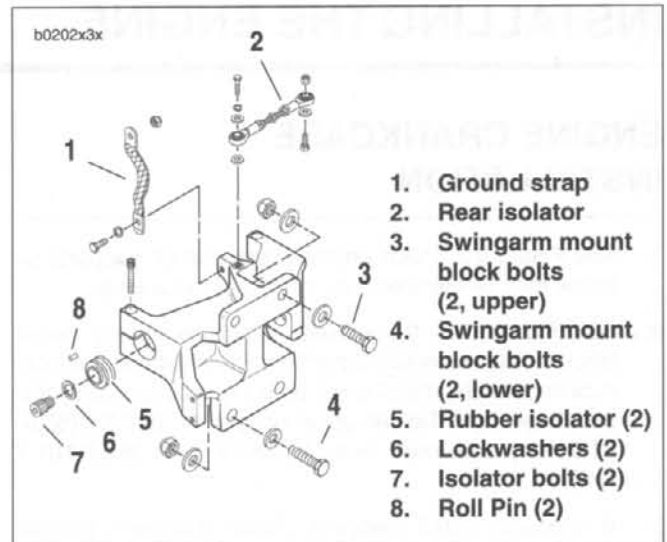
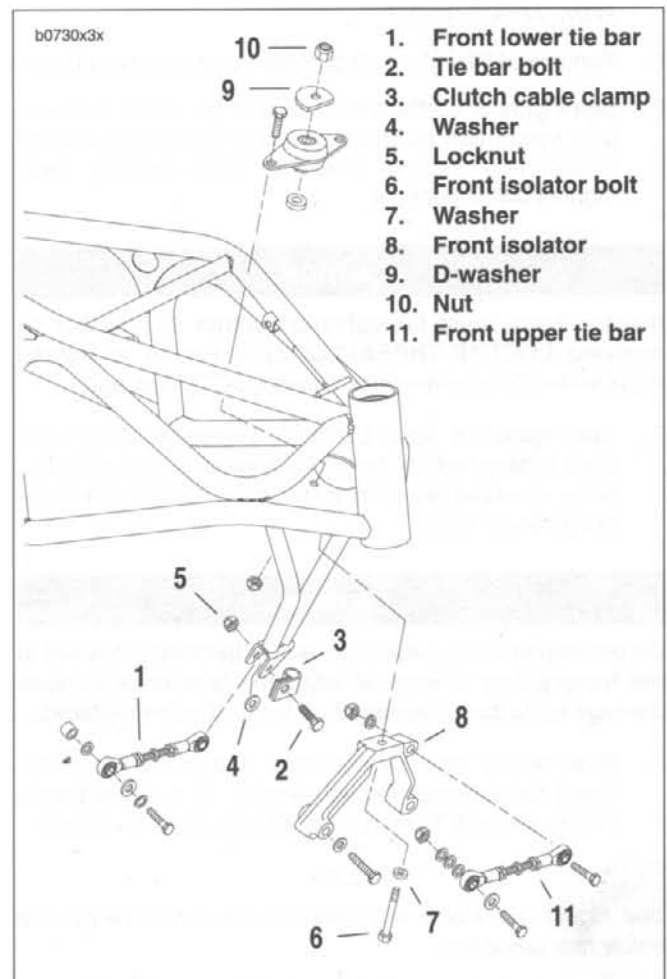

Figure 3-3. Rear Tie Bar Assembly
Figure 3-4. Front Tie Bar Assembly
15. See Figure 3-3. Remove engine ground strap (1) from swingarm mount block.
- b. See Figure 3-4. Detach front lower tie bar (1) and clutch cable clamp (3). Remove tie bar bolt (2), clutch cable clamp (3), washer (4) and locknut (5).
- c. Remove washer and nut to detach front upper tie bar (11) from isolator (8).
17. Detach front isolator (8). Remove front isolator bolt (6), nut (10), D-washer (9) and washer (7).
18. See Figure 3-3. Remove isolator bolt (7) and lockwasher (6) on each side.
19. Slowly raise floor hoist until rubber isolators (5) can be removed. Frame will rise while engine remains secured to lift by crating strap.
2. See Figure 3-3. If removed, attach swingarm mount block to engine. Install upper bolts (3), washers and locknuts finger tight. Install lower bolts (4), washers and locknuts finger tight. Tighten upper bolts to 41-45 ft-lbs (55.6-61.0 Nm) and lower bolts to 68-75 ft-lbs (92.2-101.7 Nm).
6. See Figure 3-4. Attach front isolator (8). Install front isolator mount with bolt (6), washers (7), D-washer (9) and locknut (10). Flat on D-washer faces steering neck. Tighten bolt finger tight.
7. See Figure 3-3. Apply LOCTITE THREADLOCKER 262 (red) to side isolator bolts (7). Align pins on frame into holes in rubber isolators. Install bolts (7) and lockwashers (6) finger tight.
9. See Figure 3-4. Place clutch cable clamp (3) on front tie bar bolt (2). Clamp should hold cable on primary cover side of motor. Insert bolt from front through frame and install washer (4). Continue through tie bar (1) and frame. Install locknut (5) and tighten to 30-33 ft-lbs (40.7-44.7 Nm).
10. Attach front upper tie bar (11). Insert bolt through tie bar front isolator, and frame. Secure with nut and washer. Tighten to 30-33 ft-lbs (40.7-44.7 Nm).
11. See Figure 3-3. Tighten the two side isolator bolts (7) to 100-110 ft-lbs (135.6-149.1 Nm).
12. See Figure 3-4. Tighten front isolator bolt (6) to 100-110 ft-lbs (135.6-149.1 Nm).